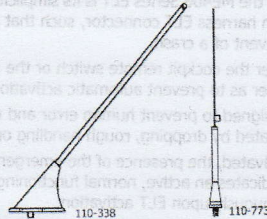

Figure 6 Antennas
- 5) Two antennas are approved for use with the ME406 Series ELT. Selection of the proper antenna is dependent upon end use, aircraft configuration and speed, and other factors. See Figure 6 Antennas.